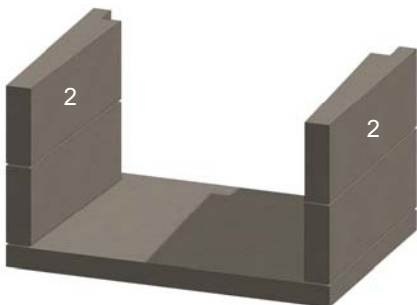

Figure 9. Middle Sidewalls
D. Install the middle sidewalls (2), ensuring they are level and square. See Figure 9.